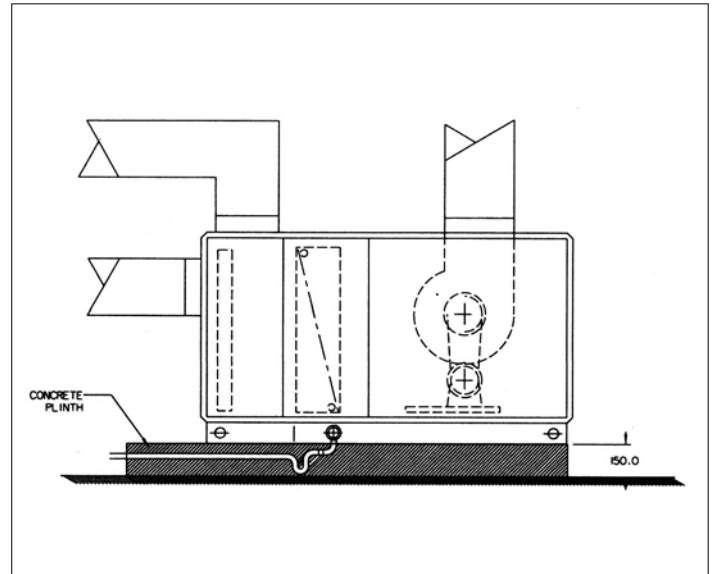

Fig. 4 Installation At Ground Level
- When installing the air handling unit on the ground/floor, a raised concrete plinth is recommended (Refer to Fig. 4 & 5).